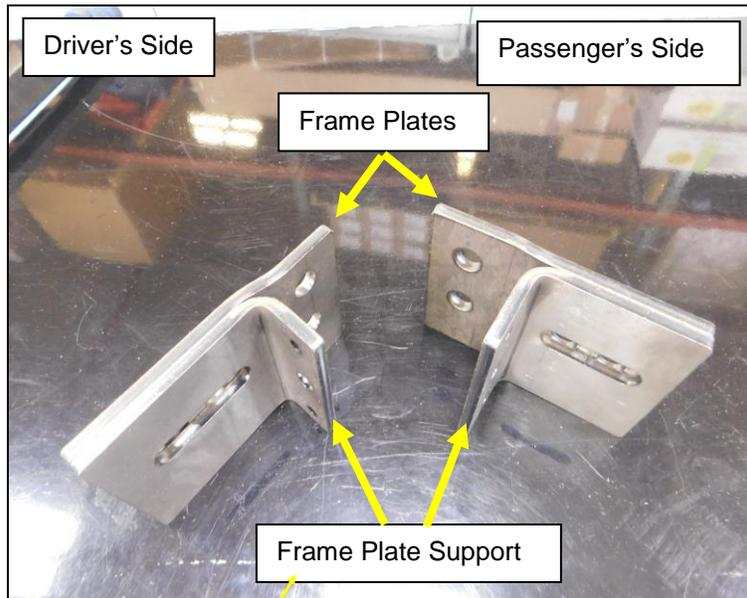

Figure 1
3. Pair the frame plates and the lower support plates as shown in **Figure 1**.